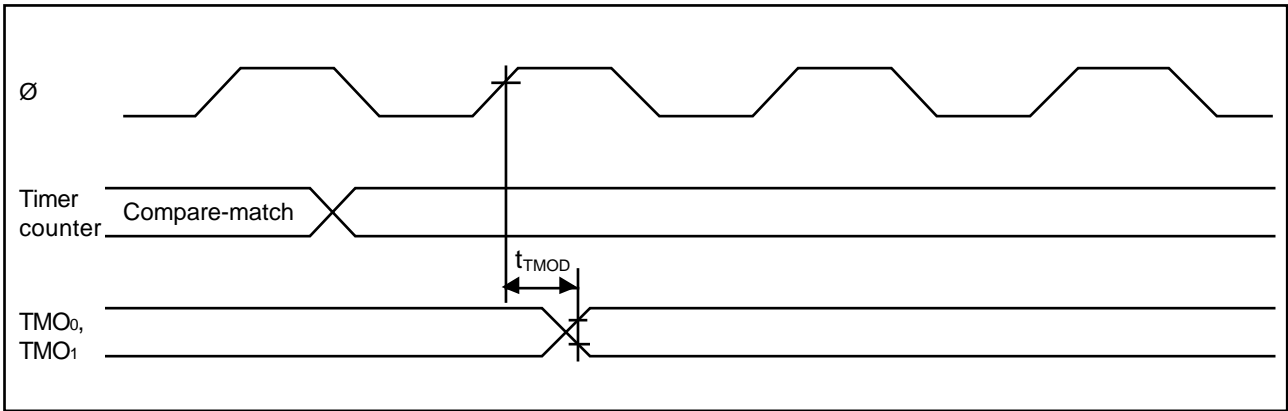

Figure 14-12. 8-Bit Timer Output Timing
- 14.3.4 8-Bit Timer Timing Figures 14-12 to 14-14